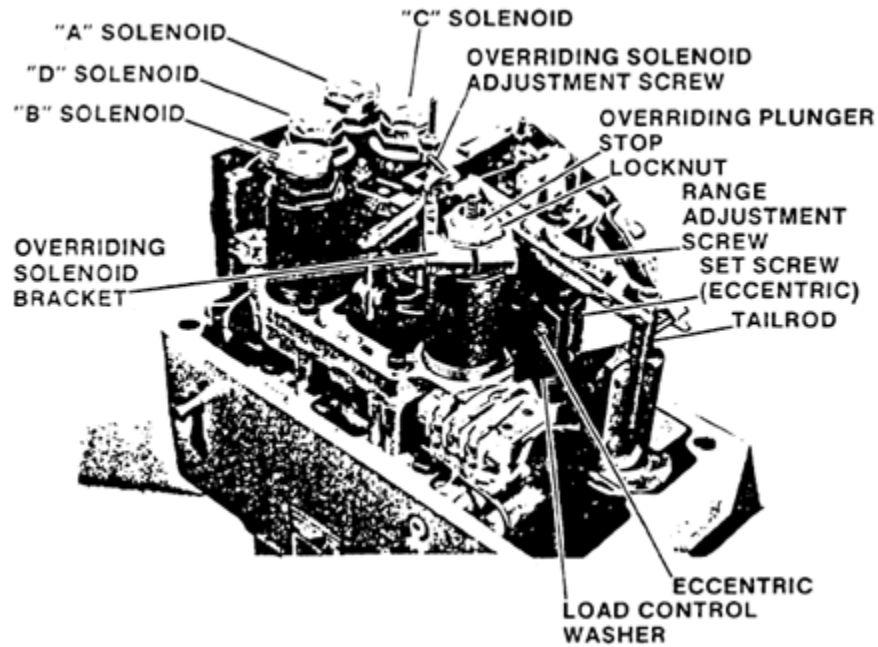

Figure 6-12. Solenoid Pack
5. Loosen locknut on over-riding solenoid and turn over-riding plunger stop down until it bottoms. Turn it 2.5 turns back off bottom and secure it with locknut. See Figure 6-12.
Set governor to step 8 speed setting and place a 0.220 inch (5.59 mm) gap block between servo housing and rod end. Adjust test stand speed to hold gap block by reducing speed about 20 to 50 rpm from step 8 speed. See Figure 6-12.